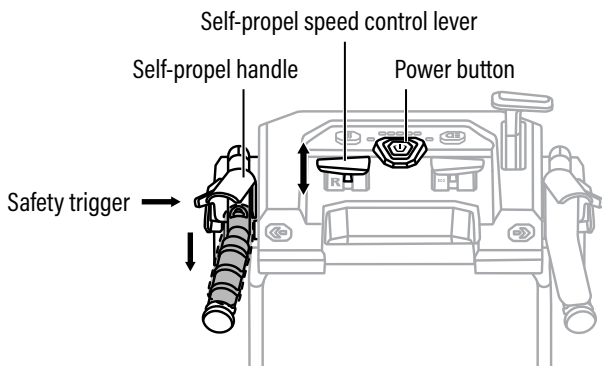

Fig. 7
1. Without starting the auger rotation, press the power button. (Fig.7)
2. Press the safety trigger inward and press the self-propel lever down to the handle, and the snow thrower begins moving. (Fig.7)
5. First release the self-propel handle to stop the blower from moving, pull the self-propel speed control lever toward the back of the snow blower, push the safety trigger inward, then press the power button and hold the self-propel handle. (Fig. 7)